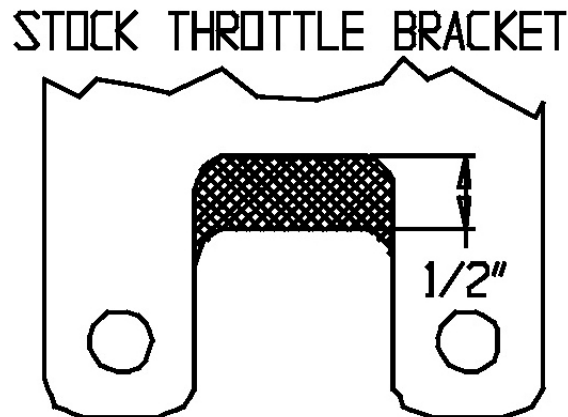

Figure 1
- **THROTTLE & ACCESSORY BRACKETS:** The throttle and kickdown bracket on some vehicles may require modification to fit (**See Figure 1**). On vehicles using throttle rods, it may be necessary to shorten the throttle rod and use Edelbrock Throttle Rod Extension Kit #8010 to achieve proper throttle and kickdown operation at the rear carburetor. Use progressive linkage kit #7094 to connect the carburetors together (See "Carburetor Recommendations").